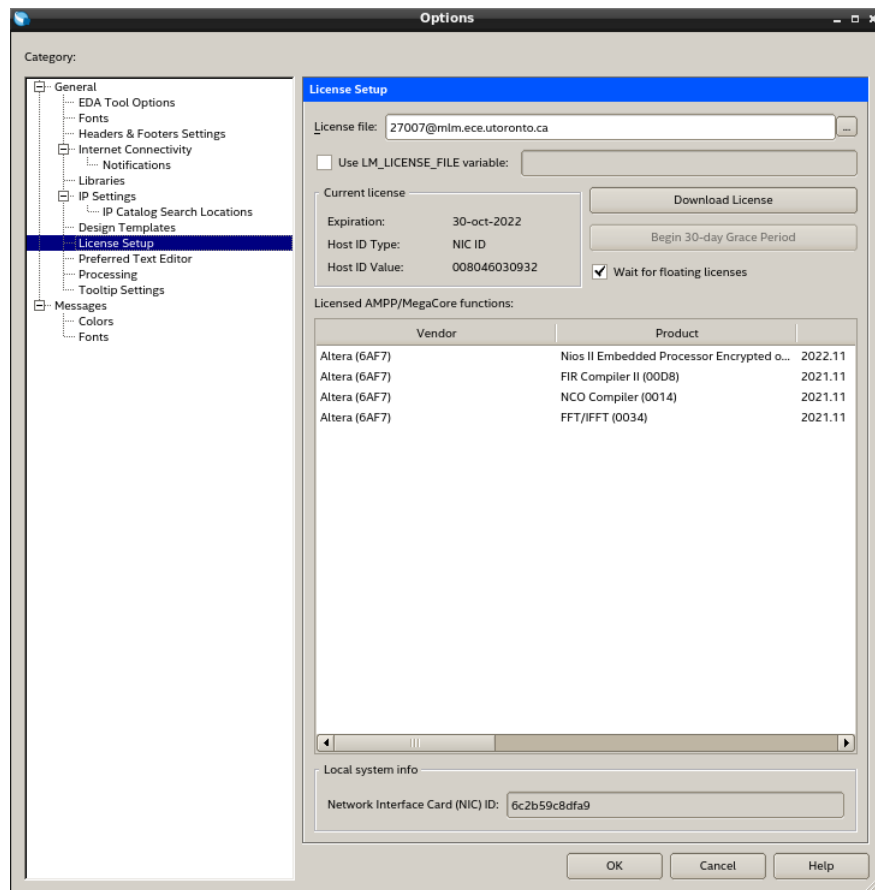

Figure 20: Quartus license setup.
**License over EECG VPN** If you are connected to the EECG research network via VPN7 choose "If you have a valid license file, specify the location of your license file", then enter `27007@mlm.ece.utoronto.ca`8 as the license file as shown in Fig. 20.9